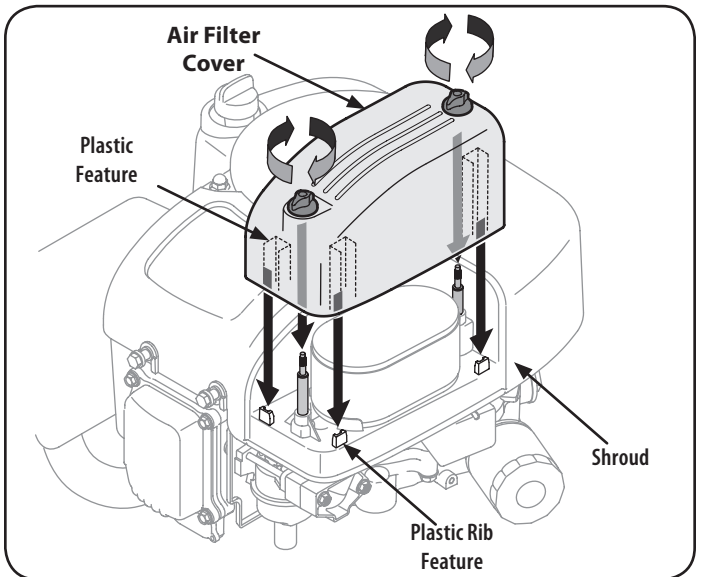

Figure 29
- Attach the air filter cover, making sure to align plastic rib features on the shroud to the plastic features on the air filter cover. See Figure 29. Turn thumb screws clockwise until snug. Check for any misalignment.